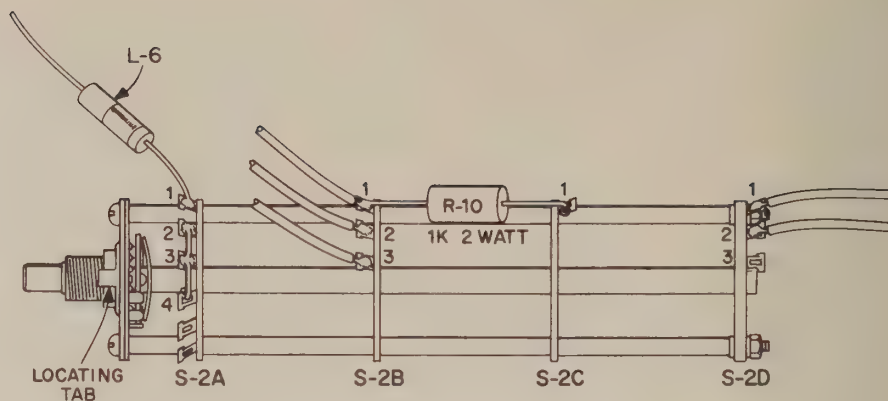

FIGURE 12. PREWIRING S-2
SEE FIGURE 12.
- ☐ S-2, the 4-wafer switch. Position the switch with the locating tab as shown in Figure 12.